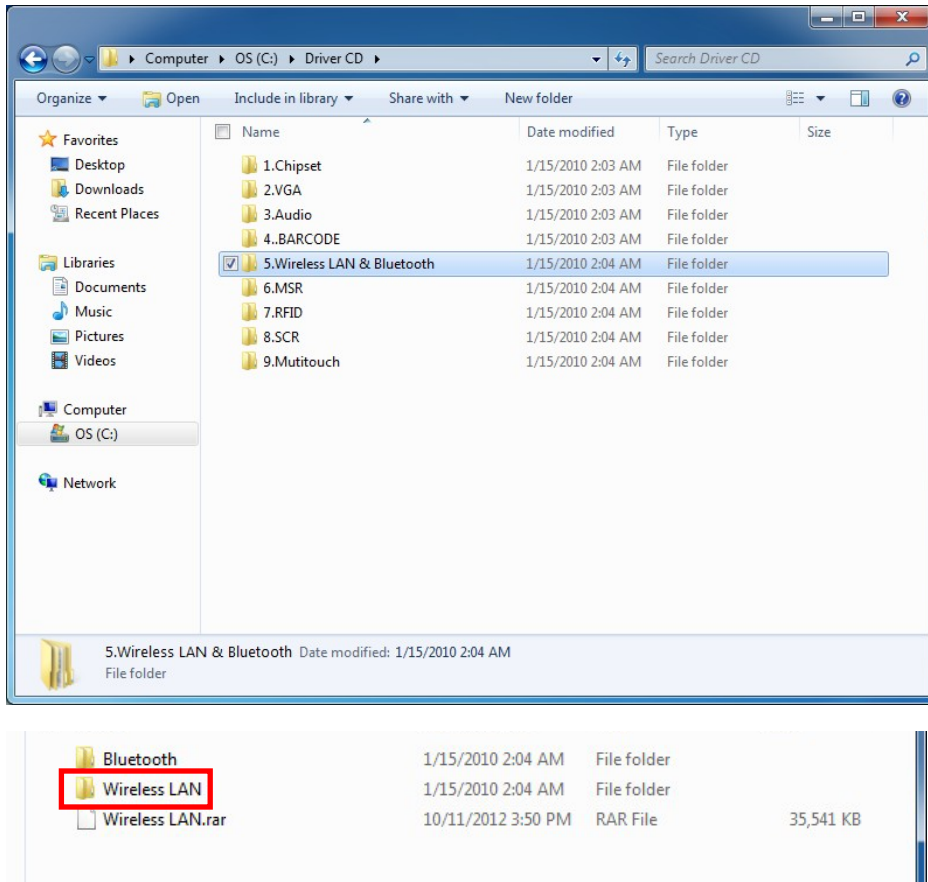

Figure 4-9: Wireless LAN Driver Location
Step 1: Select **5.Wireless LAN & Bluetooth** from the list of the driver CD shown in **Figure 4-9**. Select the **Wireless** folder.